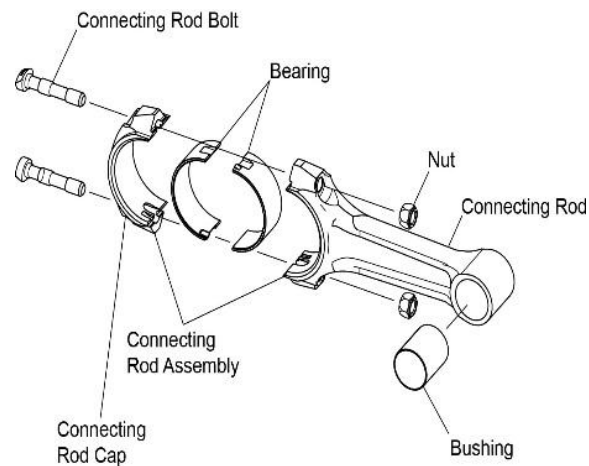

Figure 13
1. Remove and discard the two nuts (Figure 13) and the two bolts that attach the connecting rod cap to the connecting rod.